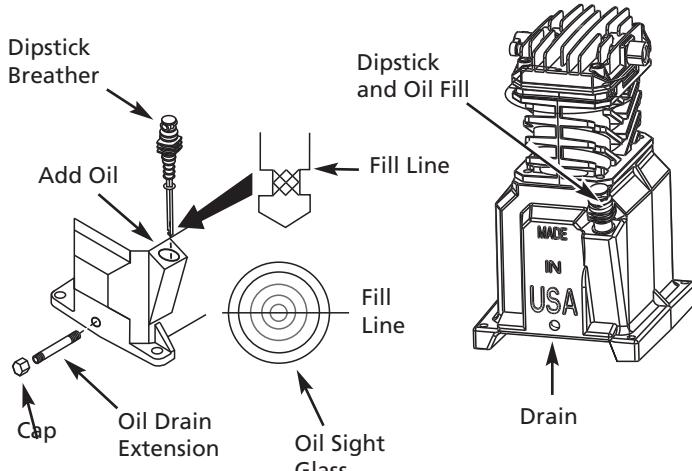

Figure 2
Some models include an oil drain extension and cap (found with the owner's manual). Install the oil drain extension and cap **before adding oil to the pump**. To avoid oil leaks, it is highly recommended to apply PTFE thread sealant tape or thread sealant to the threads on each end of the oil drain extension. Screw the cap onto one end of the extension. Remove the oil drain plug from the base of the pump and install the oil drain extension (See Figure 2).
NOTE: If your model is equipped with an oil sight glass, add oil to the center (See Figure 2).
**START-UP (SEE FIGURE 2)**